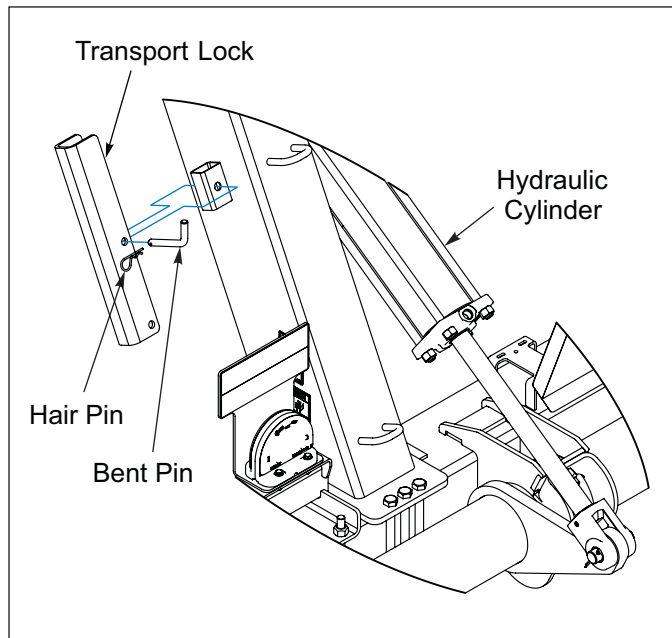

Figure 3-7: Transport Lock Storage Location
2. Remove the Transport Locks and locate Locks to Storage Position. **See Figure 3-7.**
1. Fully raise the Seeder to relieve pressure off the Transport Locks. Remove Transport Locks and relocate to storage position. **See Figures 3-7 and 3-8.**
1. To install the Transport Locks, fully raise the machine. Remove the Transport Lock from the storage position and install it over the Hydraulic Cylinder Rod. See **Figures 3-7 and 3-8.**